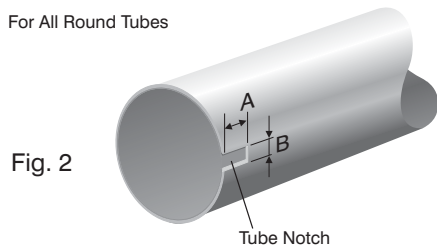

Fig. 2
- For all round tubes, notch the tube on the motor end to the dimensions A & B. (See Fig. 2)